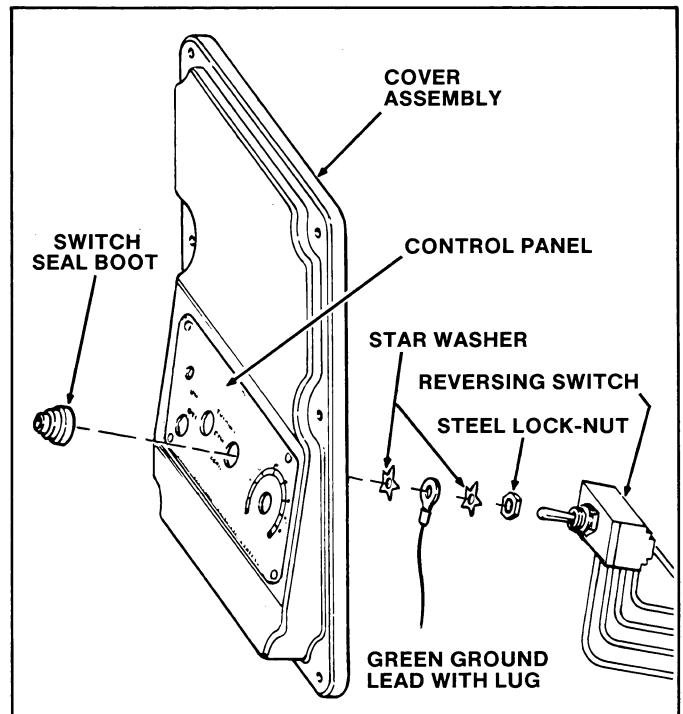
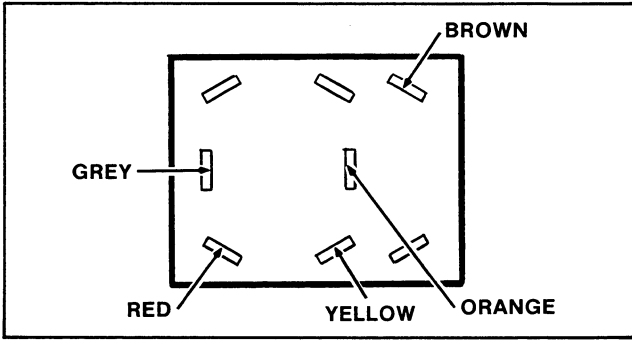
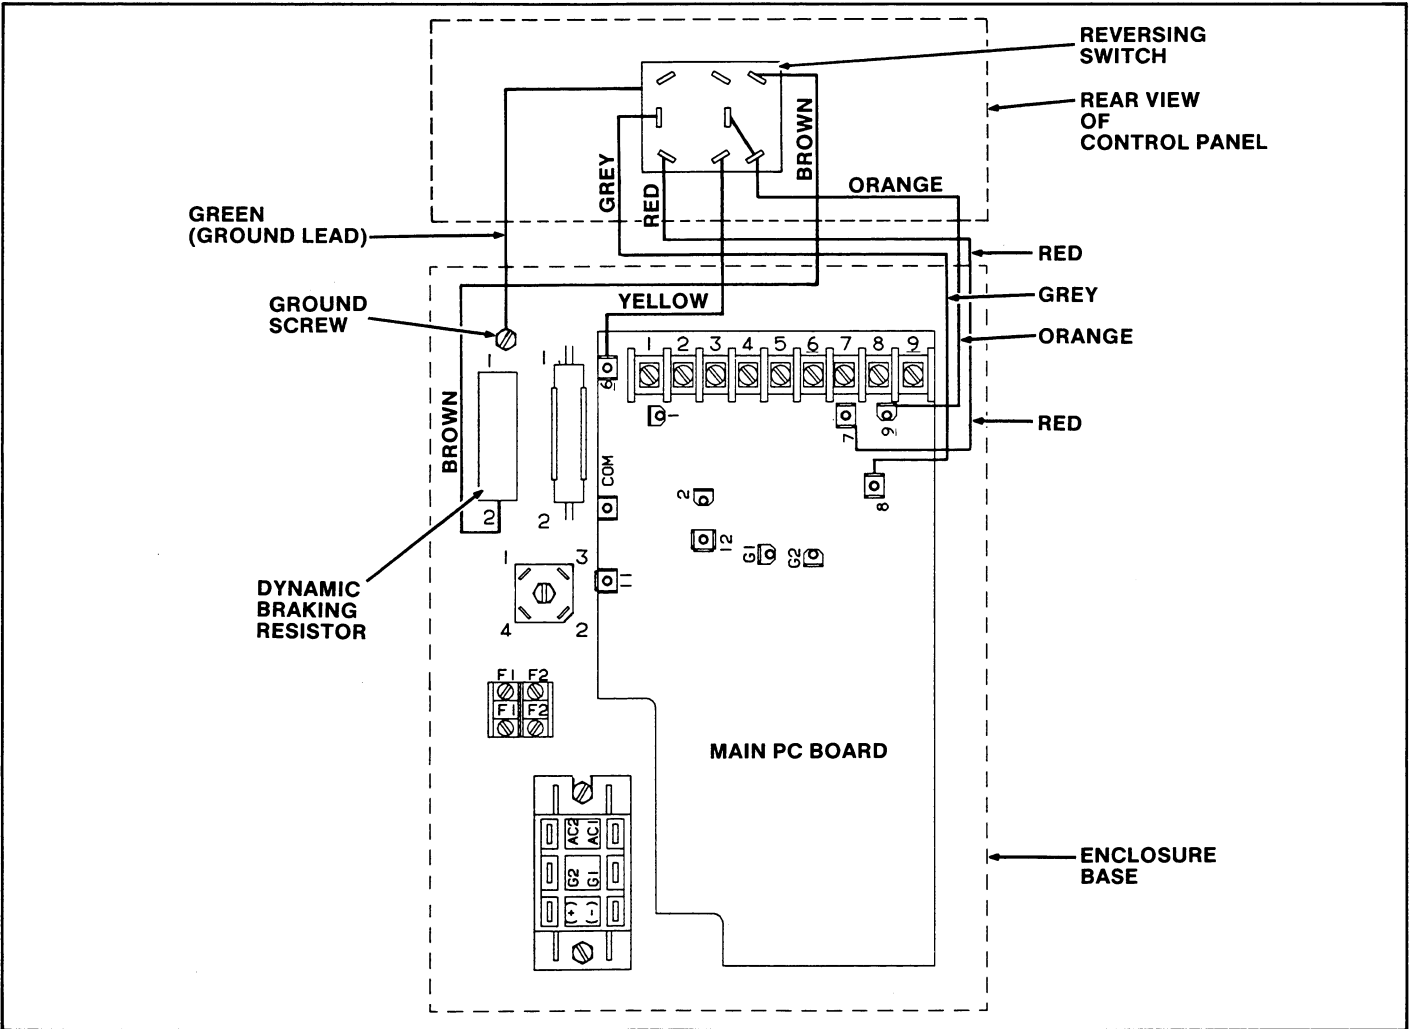

Figure 1—Reversing Switch Mounting
Figure 2—Connection Diagram for Reversing Switch (Back View)
Figure 4—Wiring Diagram for Reversing Switch
3. Loosen and remove Switch seal boot from front of control panel (see Figure 1).
9. Solder each lead to replacement Reversing Switch as shown in Figure 2. Note orientation of terminals.
12. Put Reversing Switch through the control panel. Note orientation of terminals in Figure 2 and Figure 4 (see Figure 1).
15. Check that brown lead is still connected to braking resistor and that green ground lead is attached at ground screw, as shown in Figure 4.